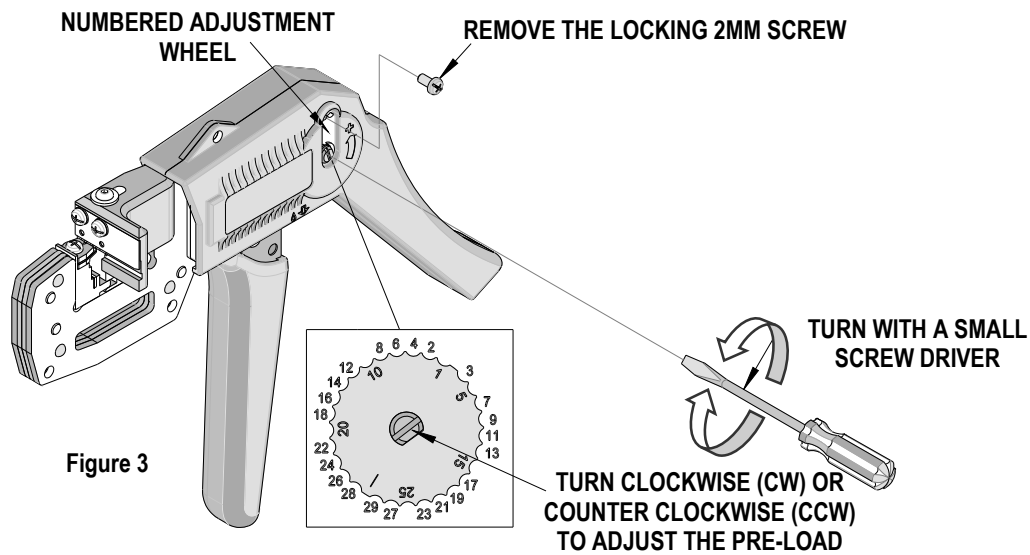

Figure 3
1. Remove the 2mm locking screw from the numbered adjusting wheel using a screw driver. See Figure 3.